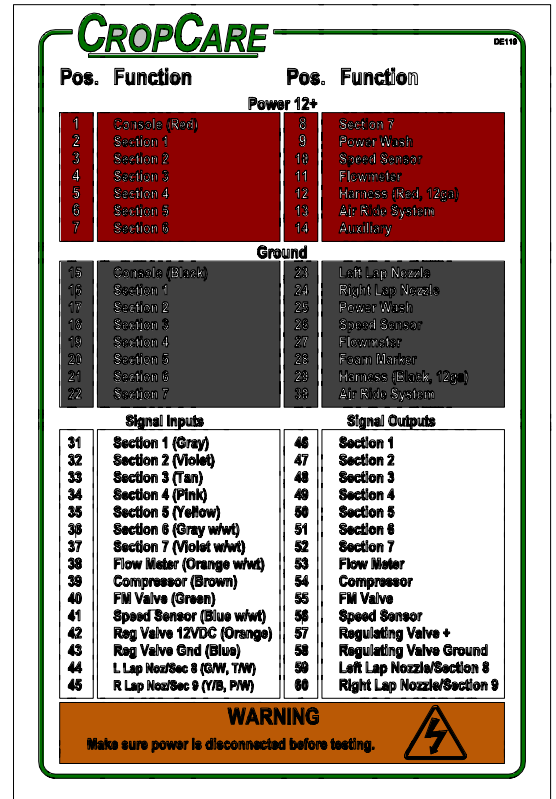

Figure 2
- Install the lap nozzle solenoid wire harness ends into the proper terminals for connecting the lap nozzle, 12V+ and ground wires. See the decal on the inside of the junction box lid (Figure 2), or see the “Wiring” section in the sprayer’s owner’s manual.